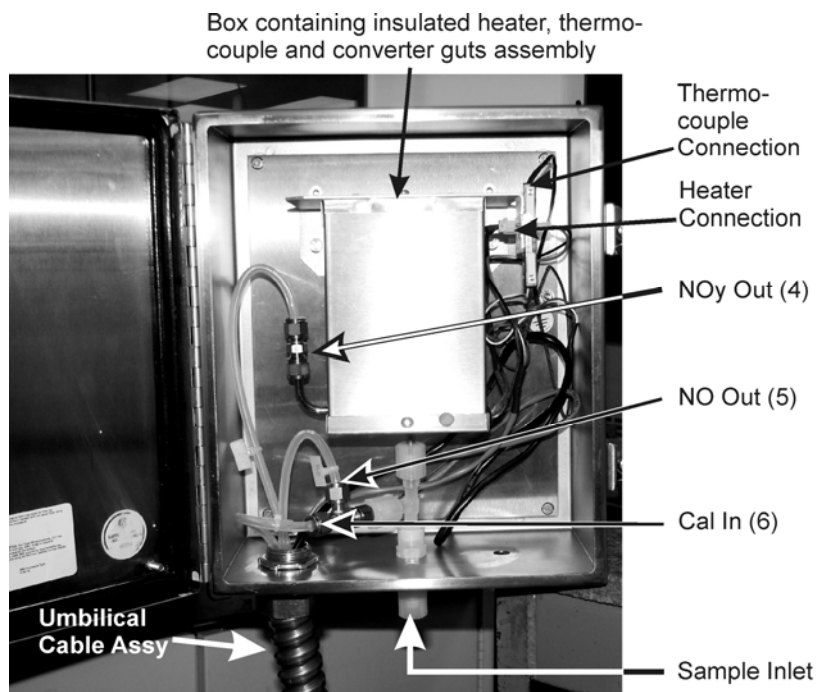

Figure 4. NOy Converter Guts Assembly Location
Calibration of the analyzer can be checked or adjusted using gas introduced either through the ZERO and SPAN ports of the analyzer (if option installed) or through the CAL IN (3) port on the 501Y rear panel. The calibration gas is routed to a tee fitting (see CAL IN (6) in **Figure 4**), near the sample inlet on the external Converter assembly.
The heater, thermocouple, and converter guts assembly is designed to be replaced as a single unit. Check Figure 4 for the assembly location.
3. Disconnect the gas fittings and power cable from the internal box containing the heater, thermocouple and converter guts assembly (**Figure 4**).